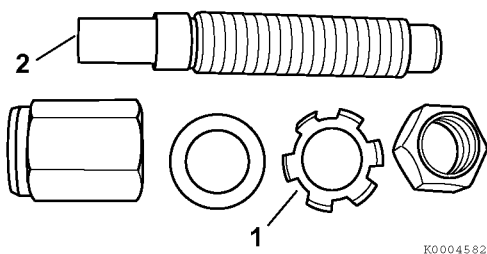

Figure 7-24
5. If installing a new fuel limiter, remove the original fuel limiter assembly from the threaded boss in the cylinder block. Disassemble the original fuel limiter assembly **Figure 7-24** and discard the fuel limiter (2, **Figure 7-24**) and lock plate (1, **Figure 7-24**).